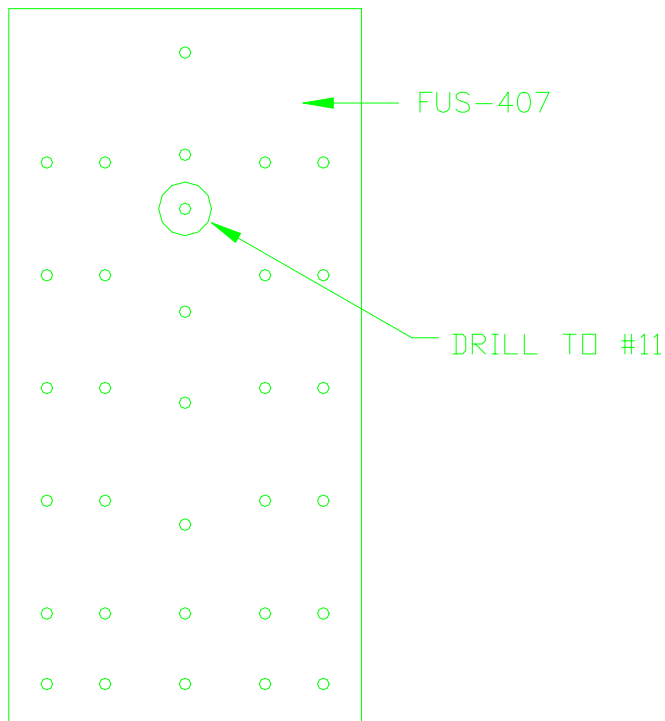

FIGURE 16
72) On the fin assembly, drill out one hole in the attach brackets (FUS-446 and FUS-407) to #11 as shown in Figure 16.